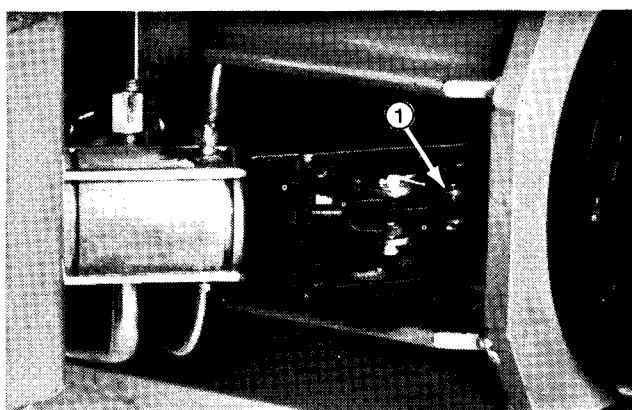
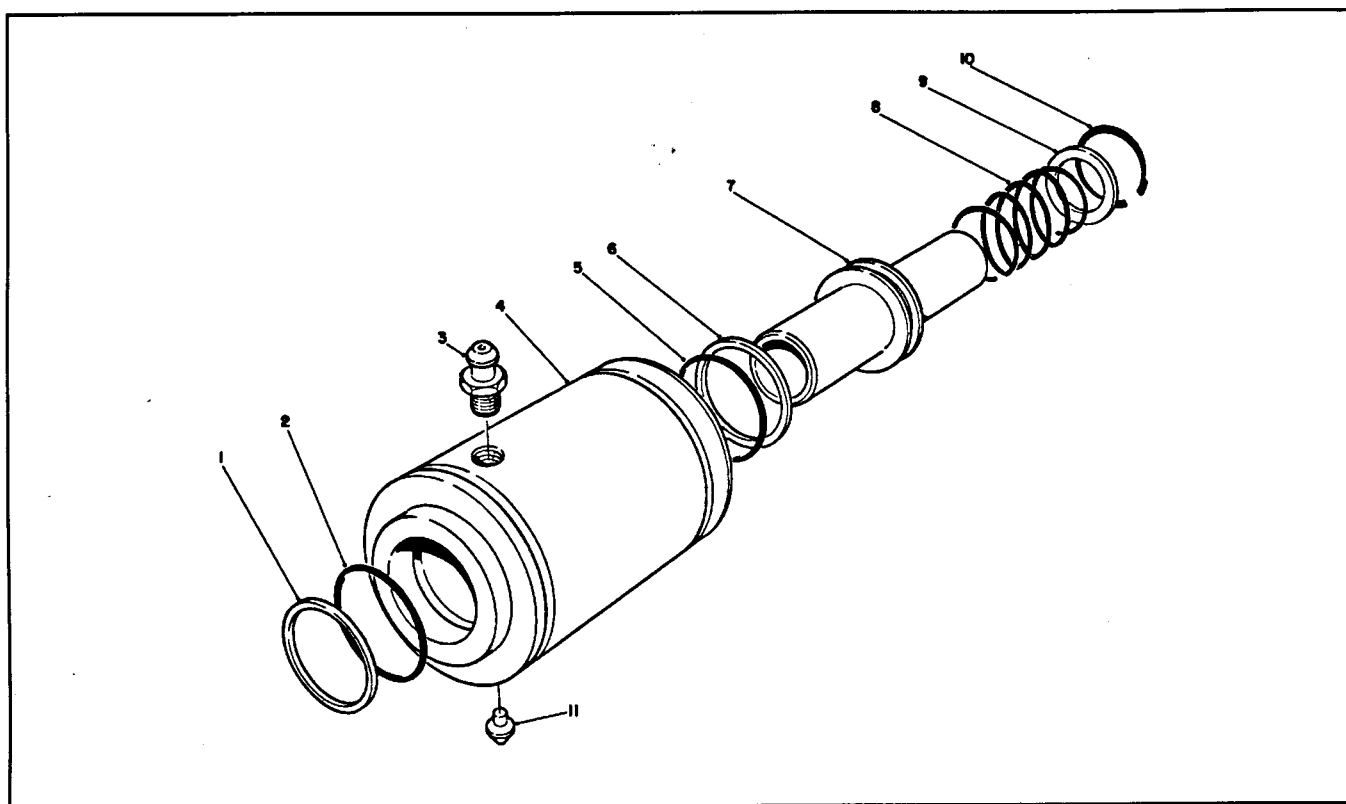

Figure 24
Figure 30
5. Remove cotter key and clevis pin to disconnect brake cable clevis (Fig 24).
4. Remove cotter key and clevis pin to disconnect brake actuator end yoke (Fig. 24).
5. Loosen four (4) long capscrews securing actuator to actuator housing. Remove actuator and end yoke from brake actuator housing.
7. There is spring pressure against the retaining ring (Fig. 30). Use a socket tool to push in flat washer and remove retaining ring.
10. Install new packing and back-up rings on piston and in housing as shown in Figure 30. Be careful to prevent damage to packing and back-up rings during installation.